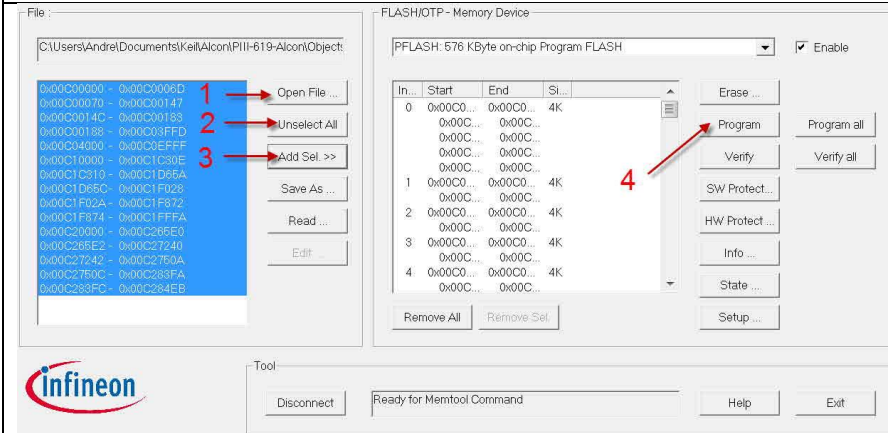

Figure 85
2. Click "*Open File ...*" button [1] in Figure 85 and browse to the location `C:\Videologix-IV\Firmware\VxPx.H86` to obtain latest firmware. You may have to change the file extension to "H86-Files" as shown below:
3. Click "*Select All*" button [2] in Figure 85
4. Click "*Add Sel >>*" button [3] in Figure 85
5. Click "*Program*" button [4] in Figure 85. Memtool will start programming Proteus
8. Click "Disconnect" button in Figure 85